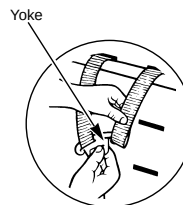

Fig 6
- Remove cover from top of seat shell. Remove shoulder straps from yoke (Fig 6) pull shoulder strap through existing slot from inside of seat to the front of the Child Safety Seat and out of the harness sleeves. Now remove the harness sleeves taking hold of one harness sleeve retaining metal harness slide at a time and twisting it so that a thin edge will go through the slot first. Push the slide through to the front of the Child Safety Seat. (Fig 6b).
- Now re-thread the harness sleeve retaining metal harness slide through your chosen shoulder slot in the cover and seat. Make sure it is not twisted. Now re-thread the shoulder strap through the harness sleeve and then through your chosen slot. Make sure the shoulder strap lies on top of the harness sleeve metal slide and is not twisted. Now thread the shoulder straps back onto yoke (Fig 6), it is essential that the straps always pass over the top rear tube. Ensure straps are not twisted, pull tight and replace seat cover.